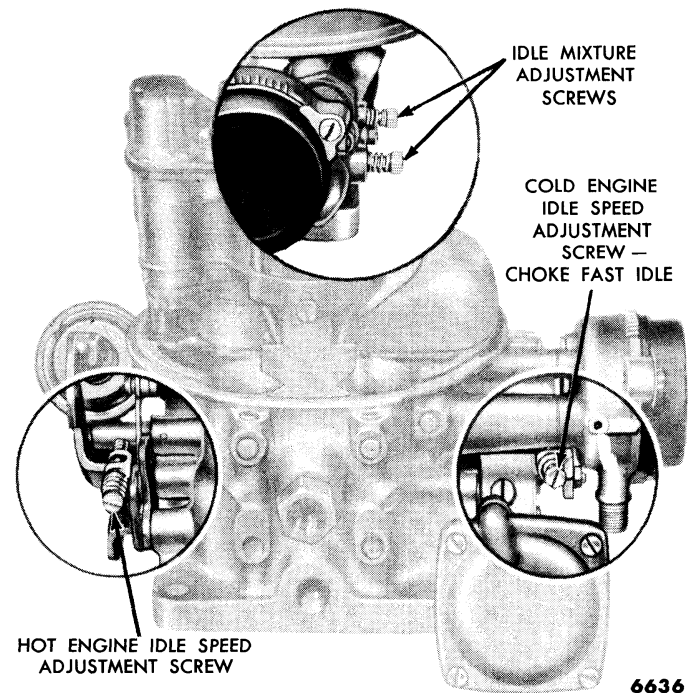

Fig. 59—Idle Adjustments
(a) **HOT ENGINE IDLE SPEED.** Adjustment of the left side stop screw controls the hot engine idle speed (fig. 59). Clockwise rotation increases the engine idle speed. Counterclockwise rotation decreases the idle speed.
(b) **COLD ENGINE IDLE SPEED.** The adjustment screw, on the right side of the carburetor contacts steps on the fast idle cam during the engine warm-up period and controls the cold engine idle speed (choke fast idle speed, fig. 59).
(2) **IDLE MIXTURE ADJUSTMENT.** The idle fuel mixture to both primary and secondary throttle bores is controlled by two idle mixture adjusting screws located at the base of the throttle body (fig. 59). Proper adjustment is necessary in order to obtain a smooth engine idle.